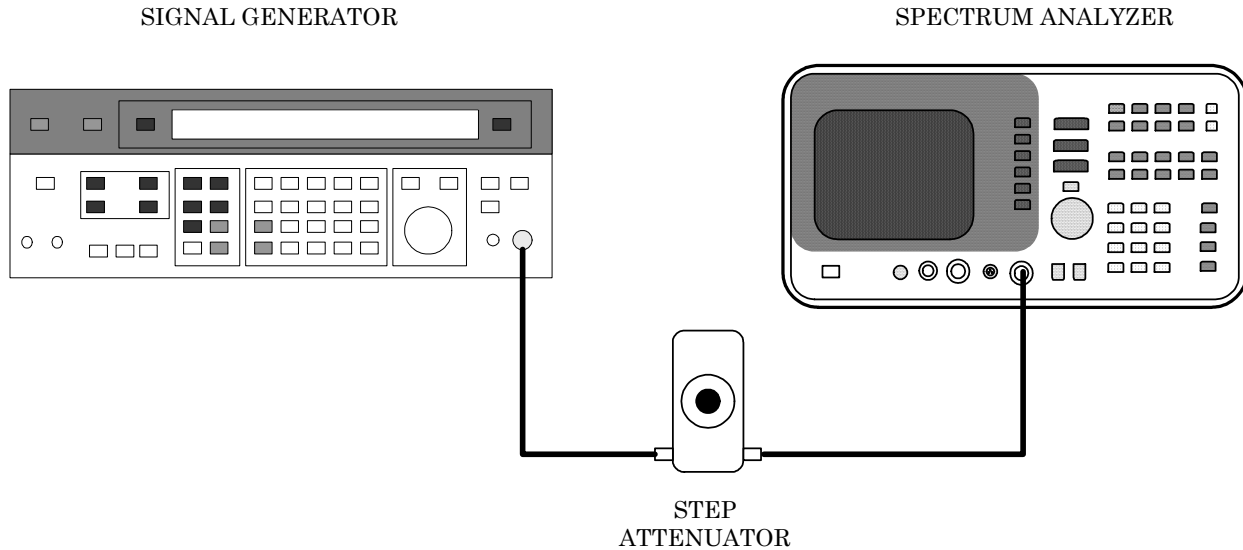

Figure 4. Output level (alternate method).
- (1) Connect signal generator RF output to power meter.
- (2) Adjust signal generator for 100 MHz and amplitude for 0 dBm indication on power meter.
- (3) Connect equipment as shown in figure 4.
- (4) Set step attenuator to 80 dB.
- (5) Without adjusting signal generator, establish a reference indication on spectrum analyzer.
- (6) Repeat technique of (1) through (5) above, for power meter reading of -2.5 and +2.5 dBm. Record reference on spectrum analyzer without changing setting on spectrum analyzer.